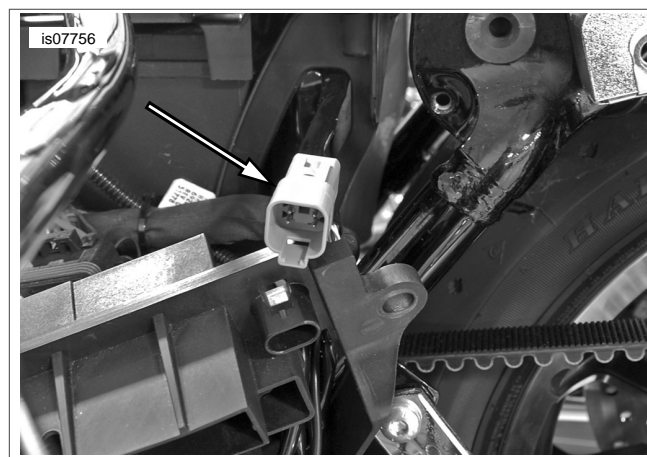

Figure 11. DLC [91A]
2. See Figure 11. Release the stock [91A] from the left side caddy. Pull it back through the opening into the area behind the caddy, under the seat.